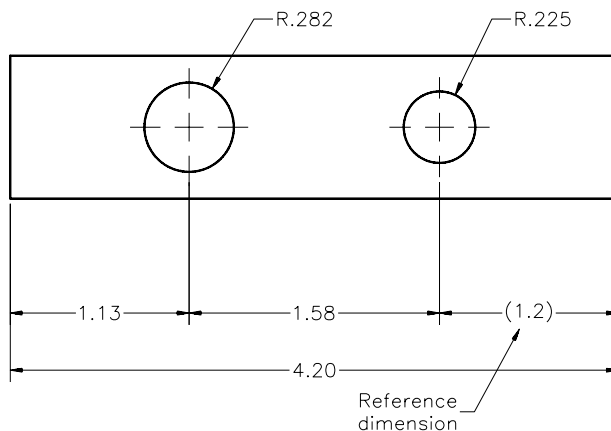

Figure 22-39 Reference dimension
13. When a dimension is not required but you want to give it for reference, it must be a reference dimension. The reference dimension must be enclosed with parentheses (Figure 22-39).